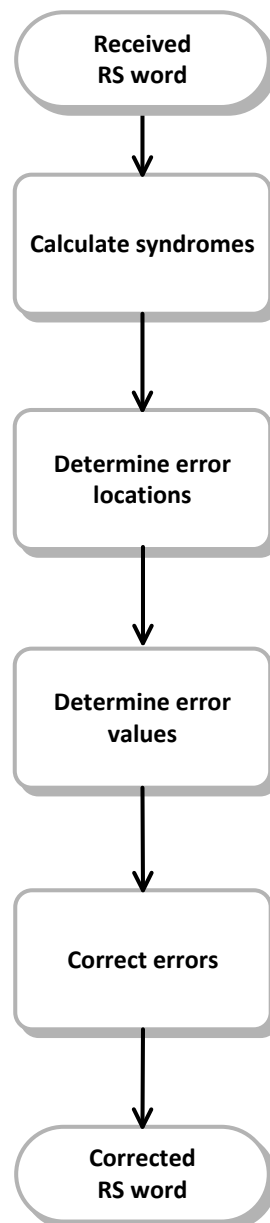

Figure 1: Functional flow chart of the Reed Solomon decoder
- A functional flow chart is shown in Figure 1.